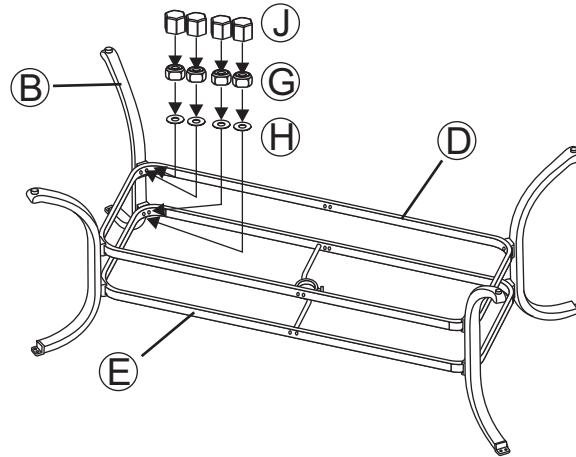

Figure 1
- 1 Attach a table leg to the leg connector bracket-1 & -2 by carefully guiding the bolts already in place on the table legs (each leg has four bolts) through the holes in the leg connector brackets. Add a washer and a nut to the end of each bolt as shown in the **Figure 1**. **Hand tighten 2-3 turns only**. Repeat on the other three legs.
- 2 Attach a middle leg to the leg connector bracket-1 & -2 by carefully guiding the bolts already in place on the middle legs (each leg has four bolts) through the holes in the leg connector brackets. Add a washer and a nut to the end of each bolt as shown in the **Figure 1**. **Hand tighten 2-3 turns only**. Repeat on the other three legs.
1 **Important: We recommend 2 people work together to assemble the chair.** Note the arrow labels on the "U" bar and the rocker assembly. Also note the horseshoe shape of the rocker plate. Point the open end of the horseshoe away from you. The arrows on the rocker assembly should be pointing towards you. Set the chair frame on the rocker assembly with front of the seat facing you and the arrows on the "U" bar pointing towards you as shown in **Figure 1**. This is very important for a safe, balanced rocking motion. **If chair frame has been properly positioned on the rocker assembly, all arrows on the "U" bar and rocker assembly will be pointing in the same direction.**